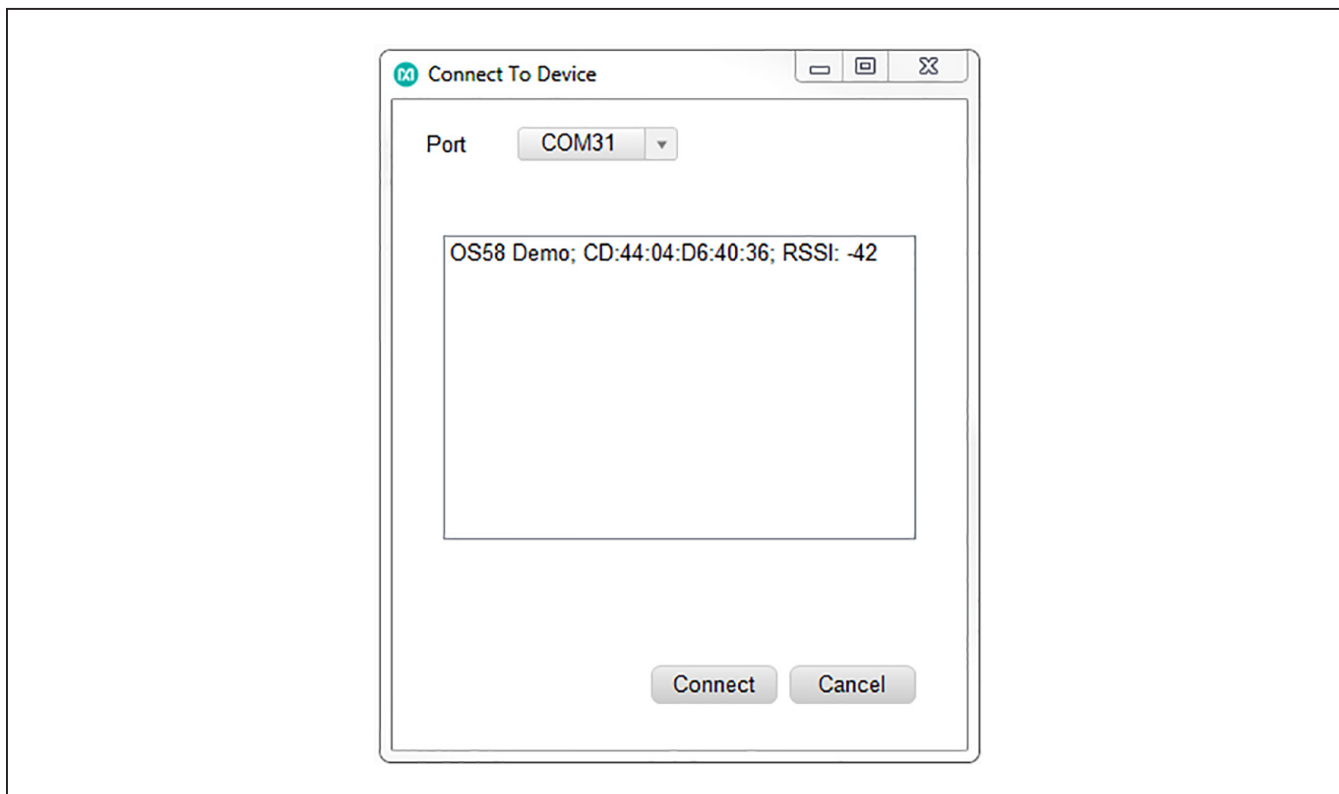
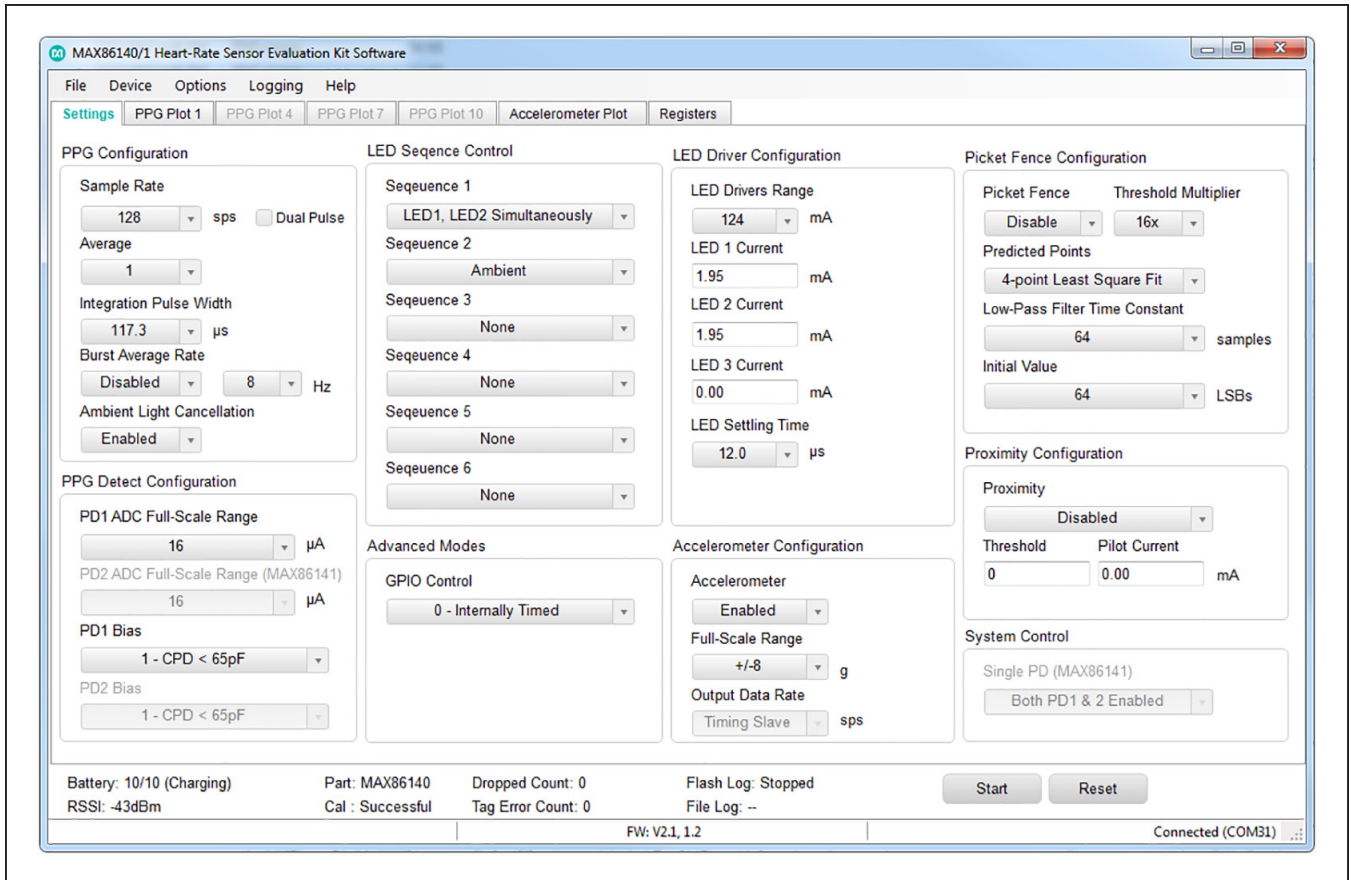

Figure 13. Connect to BLE Device
Figure 14. MAX86140 EVSYS GUI
- 10) When running, the LEDs on the Micro PCB should illuminate and the plots on the GUI should stream with data as shown in Figure 13 and Figure 14.